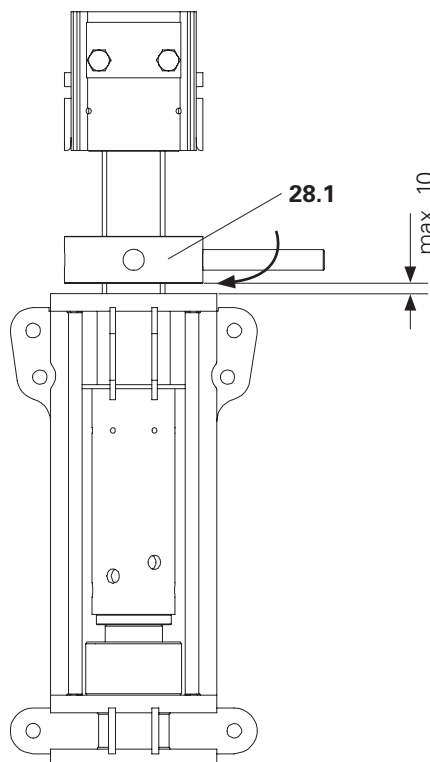
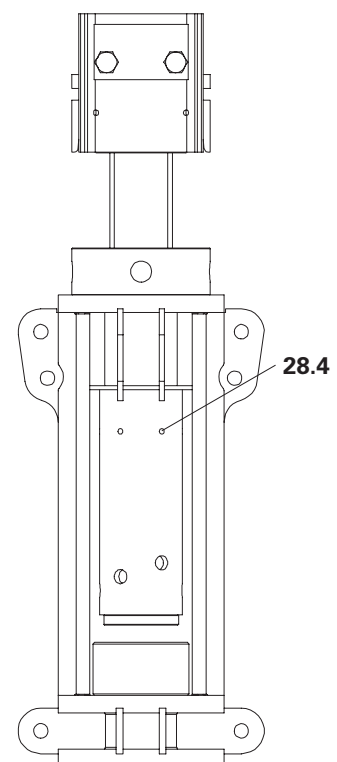

Fig. D1.07
Fig. D1.08
5. Insert the mounting shaft VST (29) into the spindle nut (28.1). (Fig. D1.07)
6. Turn the mounting shaft VST (29) in a clockwise direction until the spindle nut (28.1) rests on the head plate.
7. Lower the hydraulic cylinder (43.4). (Fig. D1.08)